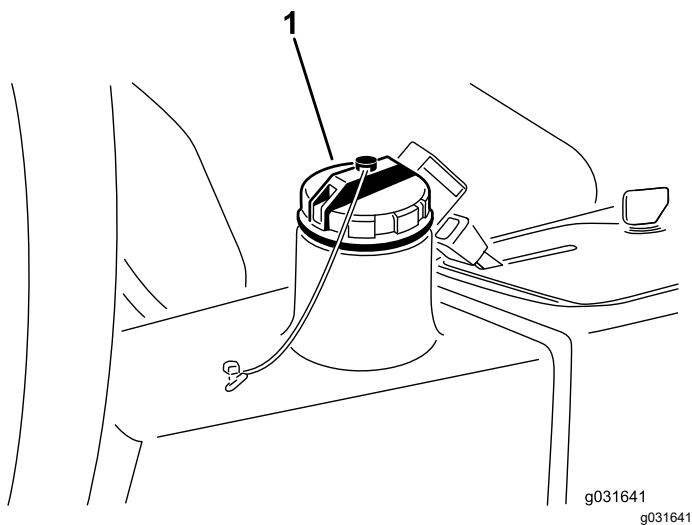

Figure 65
4. Fill the reservoir (Figure 65) with approximately 13.2 L (3.5 US gallons) of hydraulic fluid; refer to Hydraulic Fluid Specifications (page 54) and Checking the Hydraulic Fluid Level (page 55).